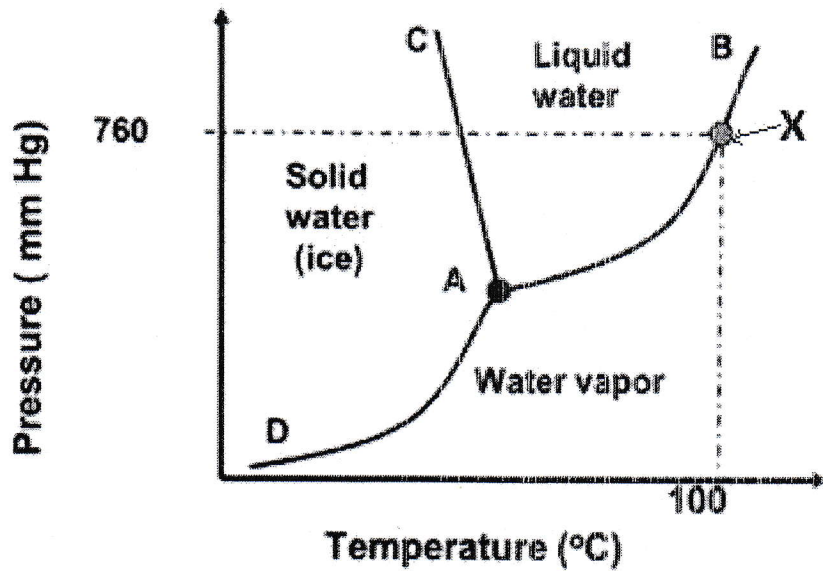

Figure 4
(C) Phase diagram of water is given in Figure 4.
- (i) Draw the phase changes of water in the Figure 4 using arrows during
- (ii) a. Name the following lines in the Figure 4